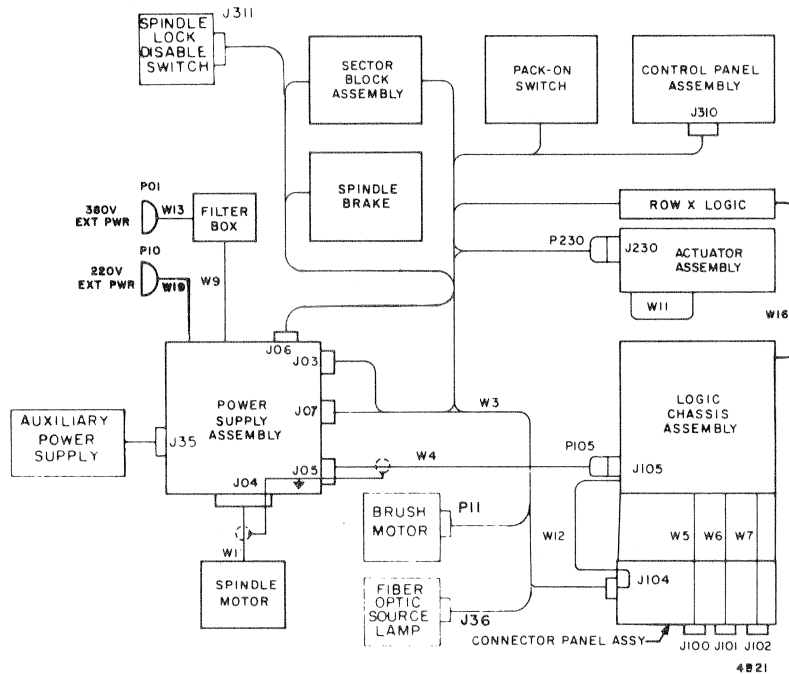

Figure 7-2. Intracabling of Disk Storage Drive
5. Place all circuit breakers in the OFF position. Inspect the intracabling connections of the unit (Figure 7-2).
6. Open and latch the disk drive top rear cover. Inspect the remaining intracabling connections of the unit (Figure 7-2).